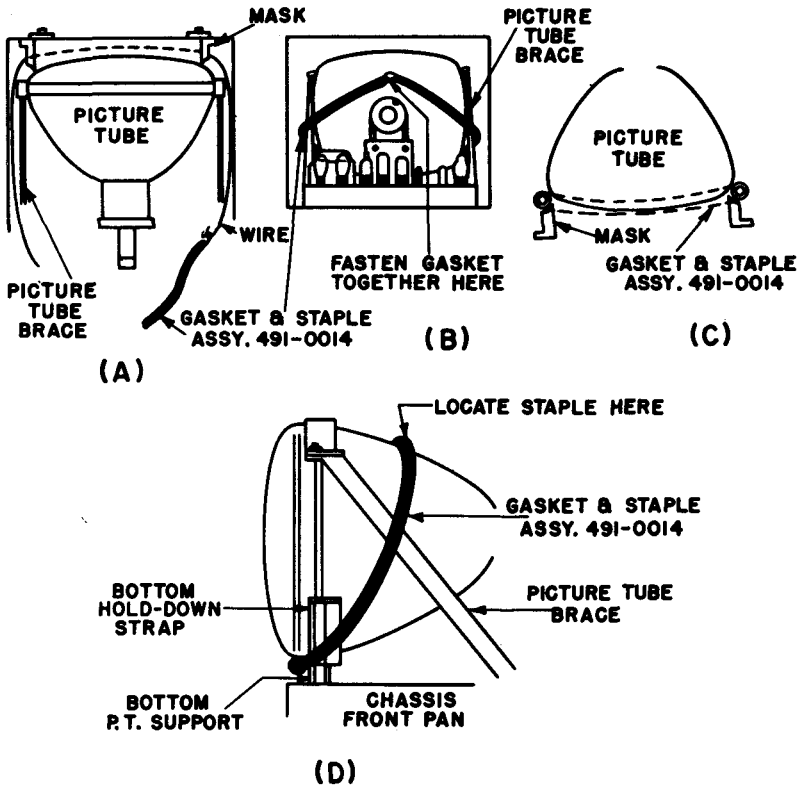

Fig. 25 — Sylvania
**SYLVANIA** All 17-inch chassis **Installation of dust seals for picture tube (see Fig. 25).**